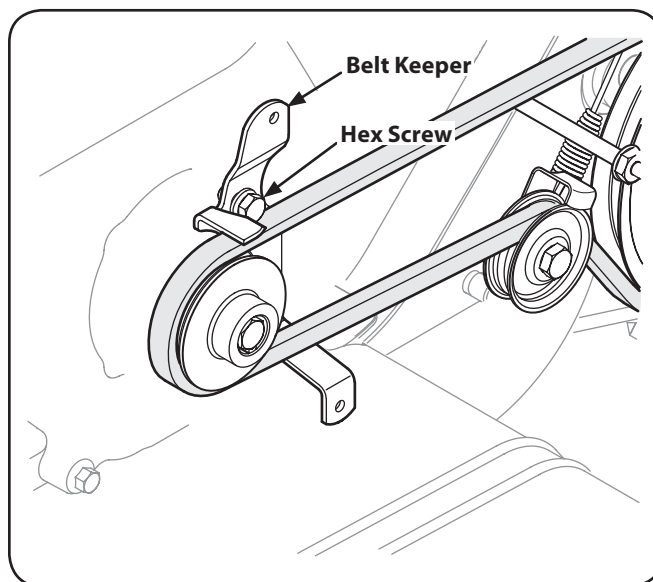

Figure 1-3
4. Using a ½" wrench, remove the hex screw securing the belt keeper to the engine. See Figure 1-3.